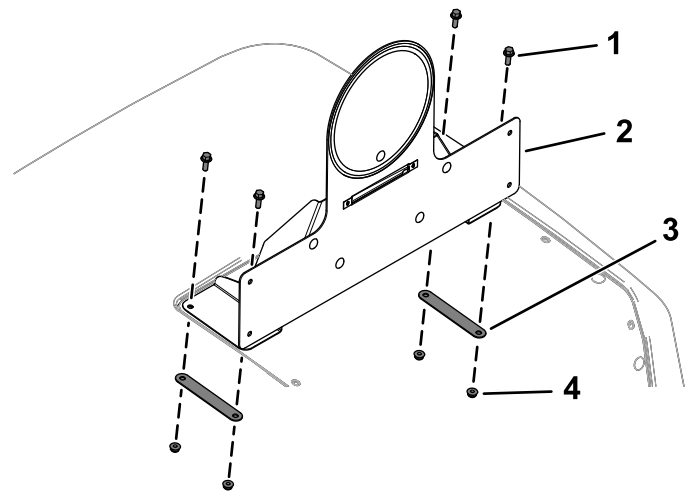

**Figure 32**
10. Route the wire-harness connector labeled LICENSE PLATE LIGHT (P14) through the hood and connect it to the license light (Figure 32).
11. Secure the wire harness to the hood using 3 hex-socket screws (1/4 x 1 inch), 3 flat washers, 3 clamps, and 3 flange nuts (1/4 inch) as shown in Figure 32.